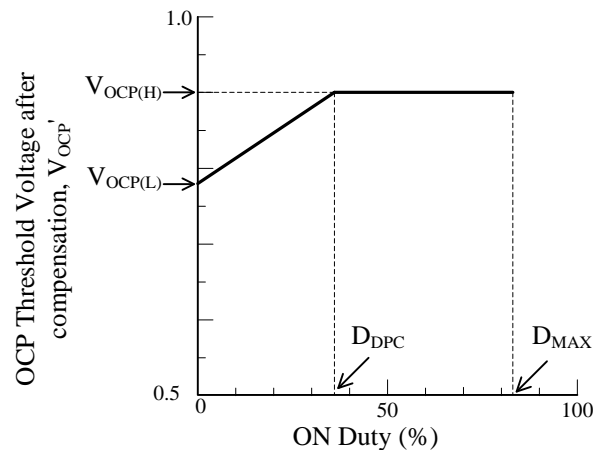

Figure 9-15. Relationship between ON Duty and Drain Current Limit after Compensation
The Input Compensation Function is the function of correction of OCP threshold voltage depending with AC input voltage, as shown in Figure 9-15. When AC input voltage is low (ON Duty is broad), the OCP threshold voltage is controlled to become high. The difference of peak drain current become small compared with the case where the AC input voltage is high (ON Duty is narrow). The compensation signal depends on ON Duty. The relation between the ON Duty and the OCP threshold voltage after compensation  $V_{OCP}'$  is expressed as Equation (6). When ON Duty is broader than 36 %, the  $V_{OCP}'$  becomes a constant value  $V_{OCP(H)} = 0.9\text{ V}$